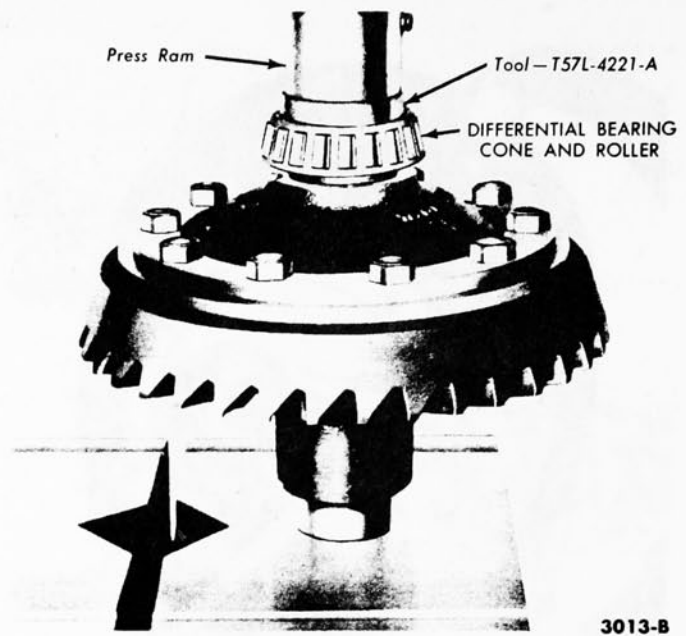

FIG. 18—Differential Bearing Cone and Roller Installation
7. If the differential bearings have been removed, press them on as shown in Fig. 18.